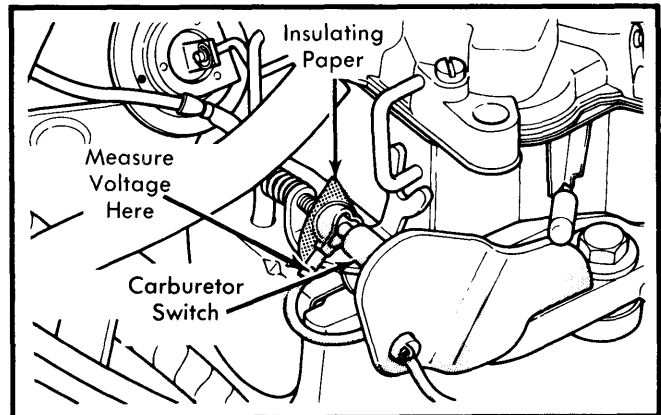

Fig. 8 Checking Voltage at Carburetor Switch
7) If battery voltage was recorded in step 6), place a thin insulator (piece of paper) between curb idle adjusting screw and carburetor switch or make sure screw does not touch switch. See Fig. 8 Connect negative lead of voltmeter to a good ground. Turn ignition switch to "RUN" position and touch positive voltmeter lead to carburetor switch terminal. Reading should be approximately 5 volts. If so, proceed to step 10).